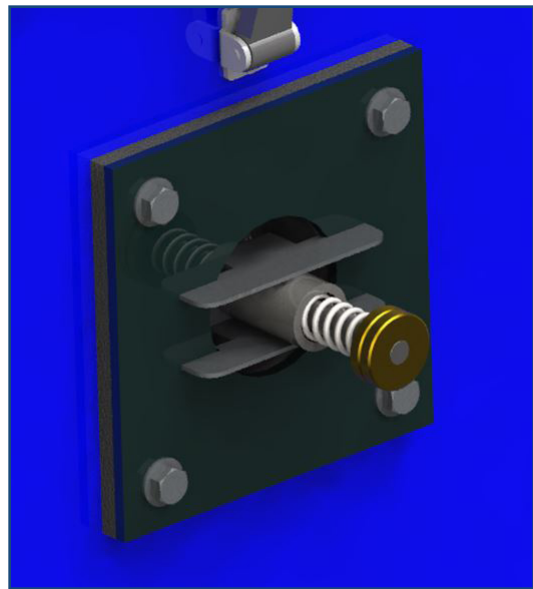

Figure 4-2. Adjusting Vacuum Relief Valve
1. Turn the two brass knurled nuts opposite directions so the inside nut turns freely. (Two brass knurled nuts are located on the side of the recovery tank - see Figure 4-2.)